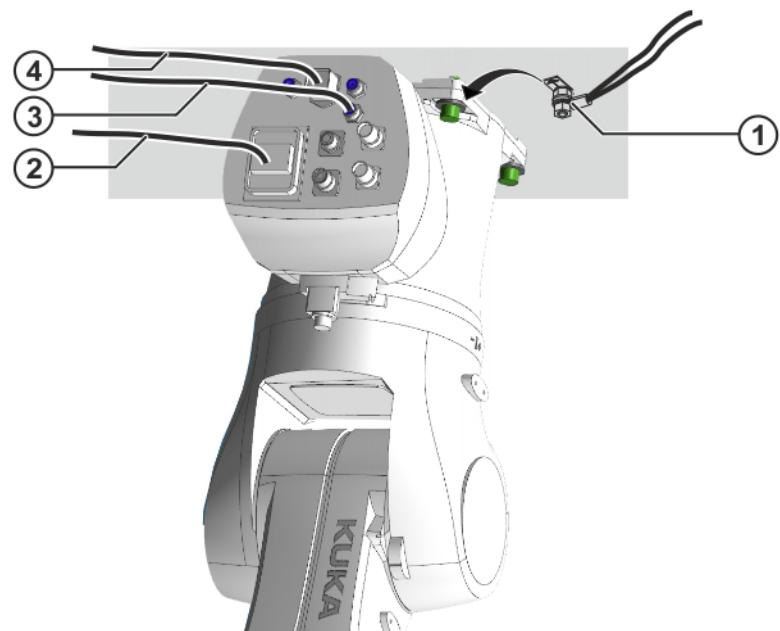

Fig. 8-14: Connecting the cables
22. Connect motor cable X30 and data cable X31 (>>> Fig. 8-14).